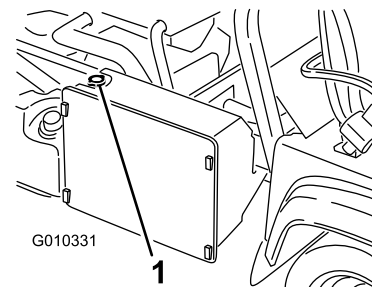

Figure 55
3. Remove the radiator cap (**Figure 55**).
4. Remove the reserve-tank cap (**Figure 55**).
7. Top off the radiator and install the cap (Figure 55).